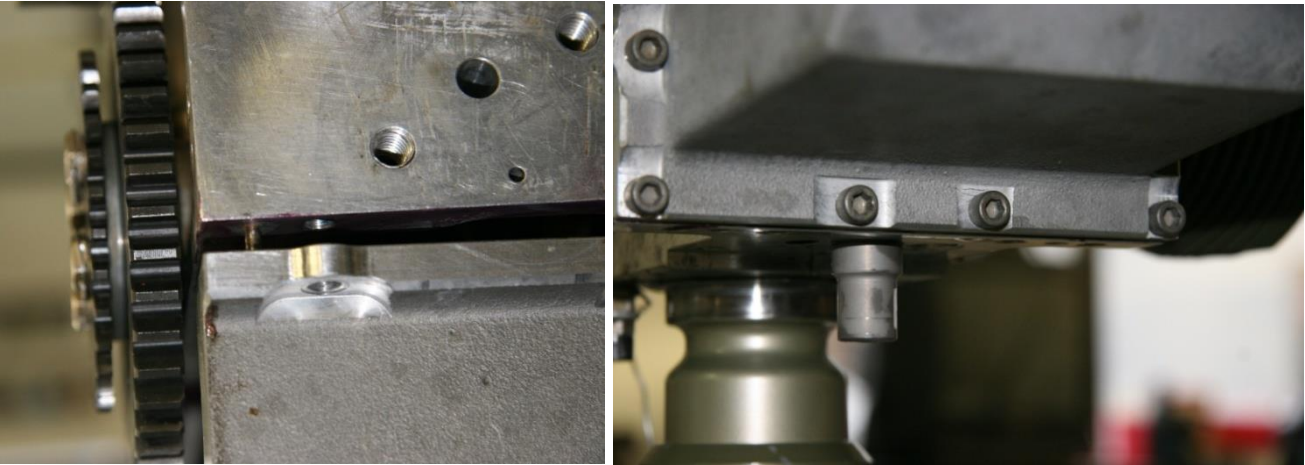

Figure 173 – Fitting Sump
- Fit the sump using cap screws and locating pins as shown in Figure 173. Note that on early engines the length of the screw which is in line with the internal oil pickup is 5/8" long compared to 3/4" for all other locations. Later sumps have a raised boss for this position allowing the longer screw to be used.